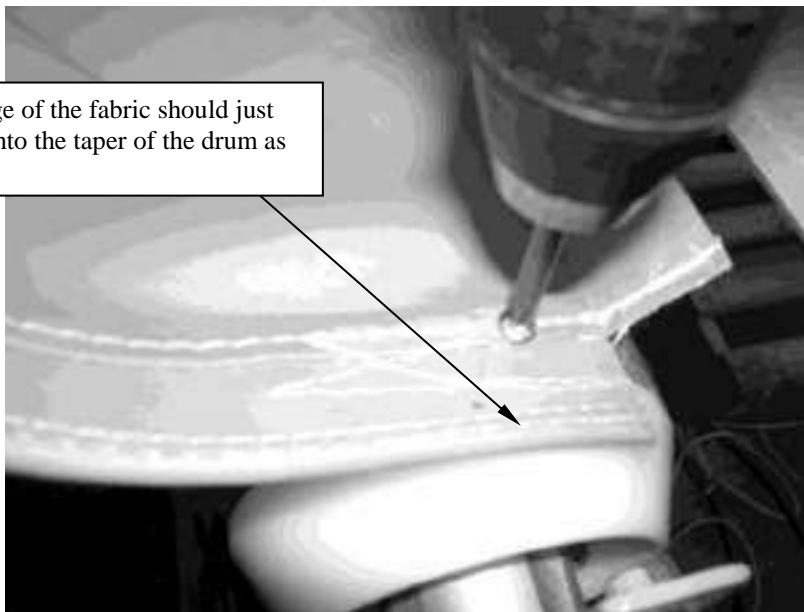

Fig 15
9. On the cover drum there is a weld seam with a small sheet metal screw securing the drum to the tapered hub. This screw is used to fasten the end fabric edge to the cover drum. Approximately 1" (25mm) from the end of the cover and at the seam of the fabric and beaded edge, secure the cover to the drum. Repeat for the other side. (Fig 15)